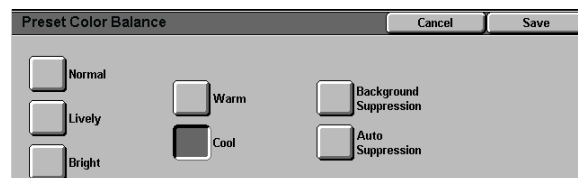

Figure 19: Preset Color Balance screen
- 1 Touch the **Preset Color Balance** icon on the Image Quality tab to display the Preset Color Balance screen, illustrated in Figure 19.